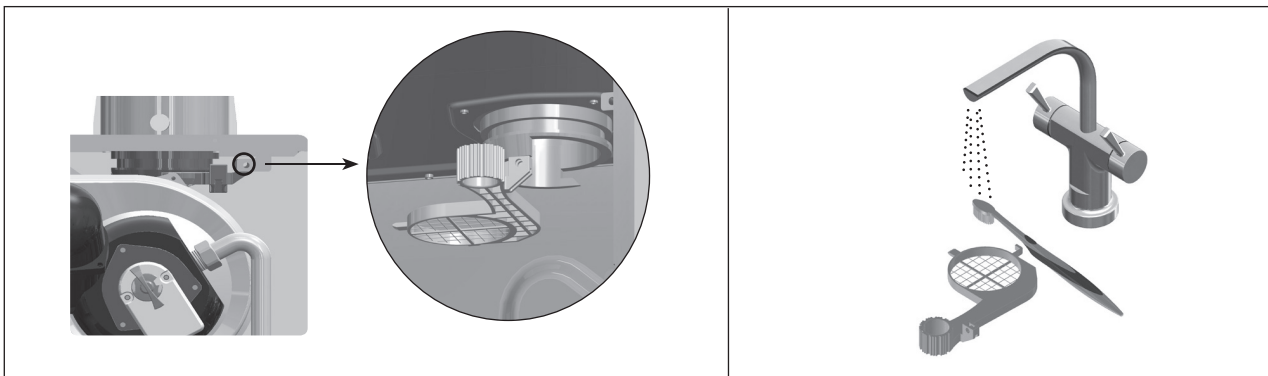

Figure 55 – Cleaning the Air Intake Filter
6. Remove the filter from the plastic assembly and clean it with a toothbrush and clean running water. See Figure 55.